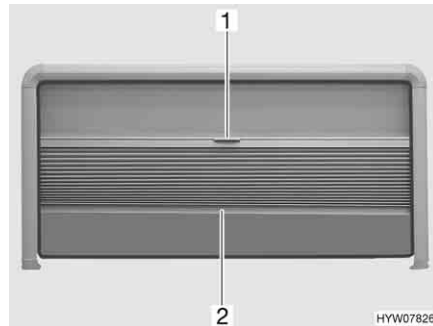

Fig. 82 Hinged window
- Hold the Roman shade in the centre of the bottom rod (Fig. 82,2) and carefully draw it downwards.
- Hold the bottom rod (Fig. 82,2) of the Roman shade in the centre and carefully slide the Roman shade upwards.
- Carefully pull down the insect screen by the handle (Fig. 82,1).
- Slowly push the insect screen on the bottom rod of the Roman shade (Fig. 82,2) all the way up.